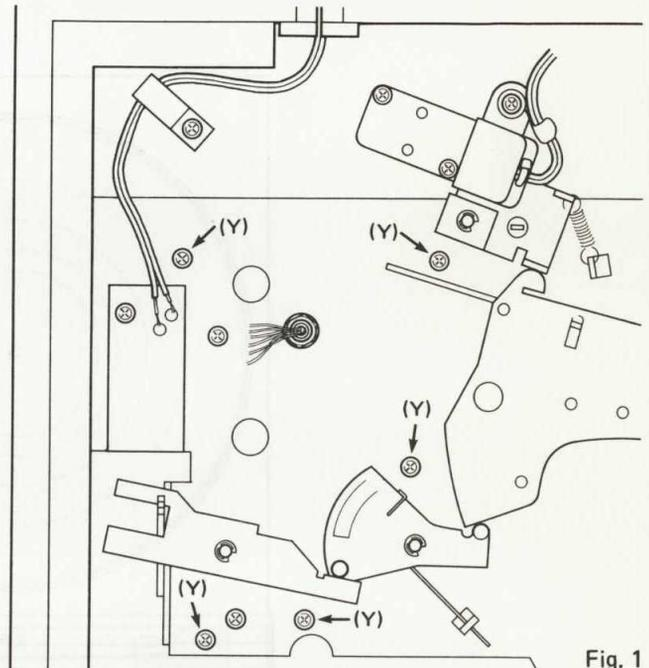

Fig. 1
4. Remove the 5 tonearm mounting screws [see Fig.1 (Y)].